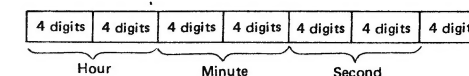

Fig. 17
When terminal (37) of IC506 as shown in the block diagram is at L level (\$S01: ON, or \$401: OFF), terminal (39) is at L level (\$S01: ON), 1 is added to the clock counter of the microcomputer with the rise of the 16Hz reference signal input from terminal (6). This operation was precedence over the frequency display mode and when the 16Hz signal rises, 1 is added to the clock counter. The clock counter is composed of 28 digits as shown in Fig. 17; it is classified in 4-digit sections from the top; 8 digits each are used for the Hour, Minute and Second. The lowest 4 digits count reference pulses below 1 second; when it counts up to 16, 1 is added to the second counter (5th digit from the bottom). When set to the clock display mode, the digits are classified in 4-digit intervals from the top digit into 6 groups, segment-coded and transmitted to the output buffer while synchronizing with the 6-phase signal. The lowest 4 digits are not displayed.